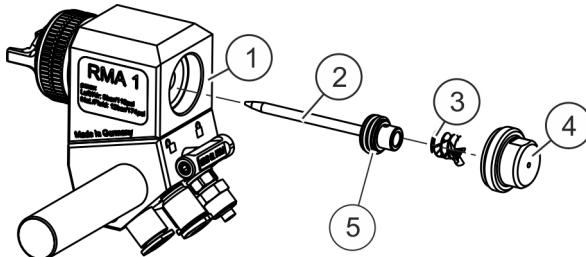

Fig. 12: Removing the material needle
2. ➡ Unscrew the cover ( Fig. 12/4).
3. ➡ Remove the pressure spring ( Fig. 12/3).
4. ➡ Pull out the control piston ( Fig. 12/5) from the main element ( Fig. 12/1) together with the material needle ( Fig. 12/2).
Remove the material needle ( Fig. 12/2) from the control piston ( Fig. 12/5).
Insert the new material needle into the control piston ( Fig. 12/5).
2. ➤ Push the control piston and the mounted material needle into the main element ( Fig. 12/1).
3. ➤ Press in the pressure spring ( Fig. 12/3) and the cover ( Fig. 12/4).
4. ➤ Screw on the cover ( Fig. 12/4).